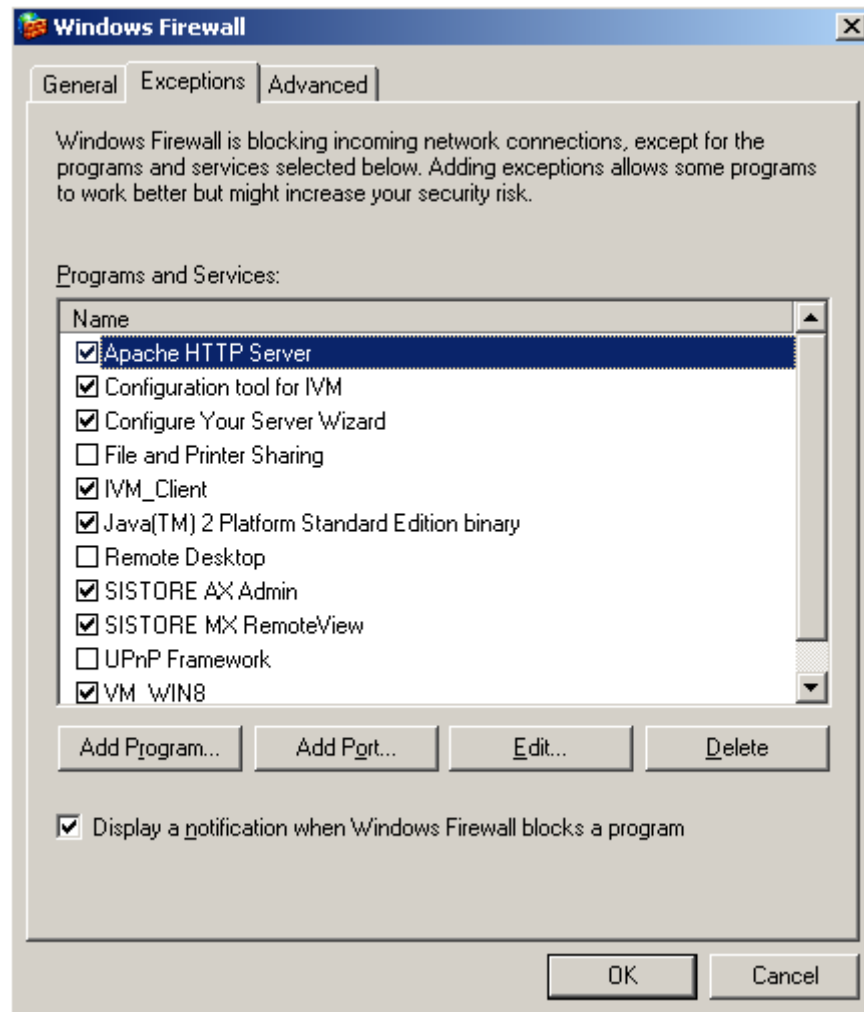

Fig. 10 Windows Firewall – Exceptions
- To allow a client PC access to IVM applications, the Windows firewall should be configured such that access is granted to all IVM applications. Examples of exceptions: See Fig. 10 Windows Firewall – Exceptions.